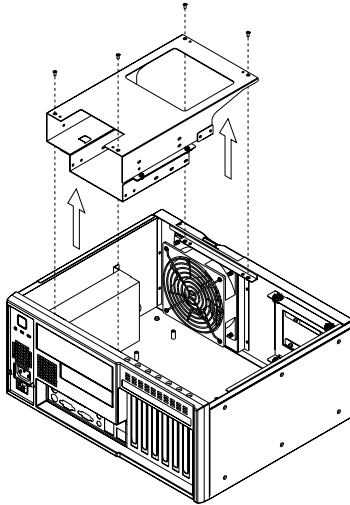

Figure 2.2: Removing the disk drive housing
1. Loosen the four screws on the top of the disk drive housing and then lift it up. (see *Figure 2.2*)